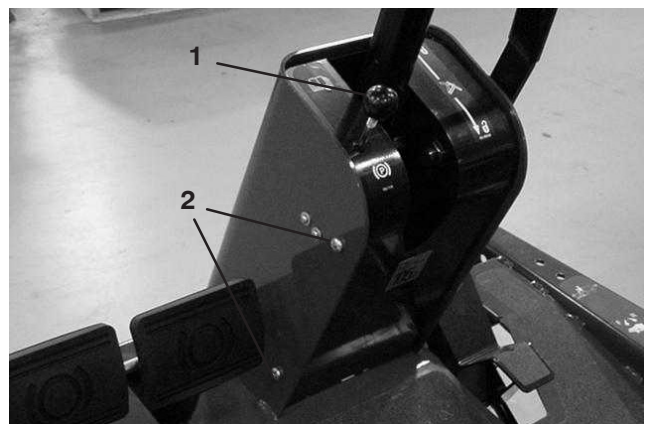

Figure 50
1. Remove knob from parking brake and screws from steering column cover (Fig. 50).